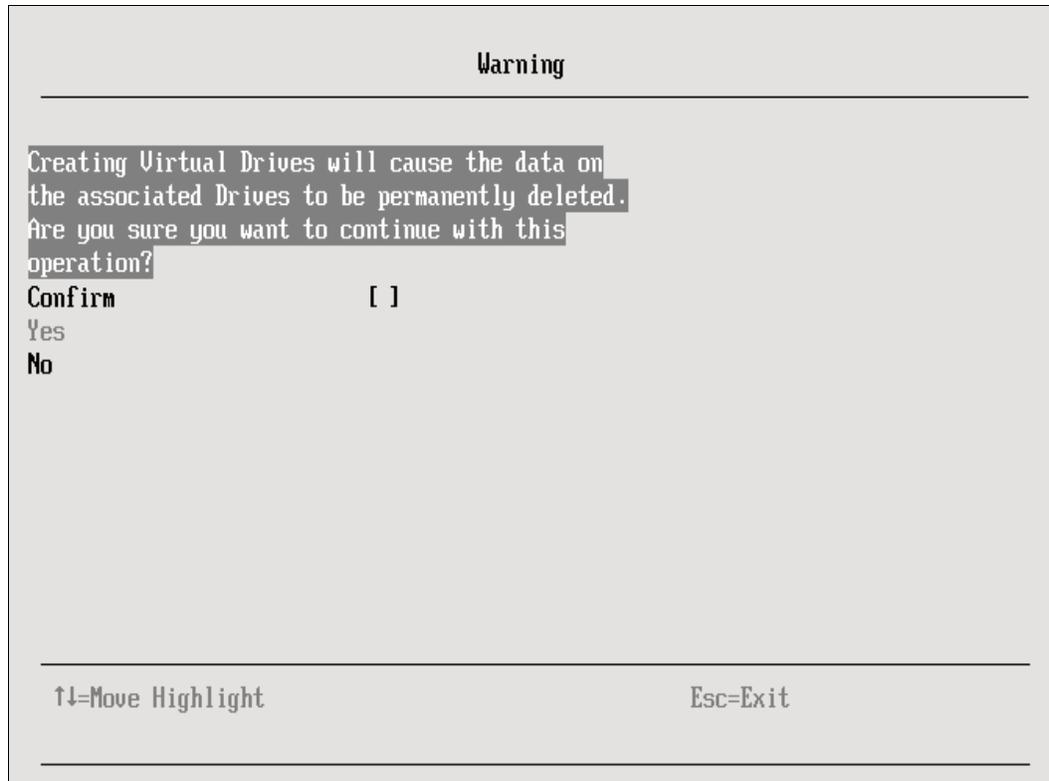

Figure 3-24 Warning creating virtual drives
5. To complete the virtual drive creation, be sure to select **Save Configuration** from the Create Configuration menu. Click **Enter** after making any other settings changes to the Virtual Drive Parameters in the Create Configuration menu. Figure 3-24 shows the warning that is displayed. Select **Yes** and click **Enter** to continue.